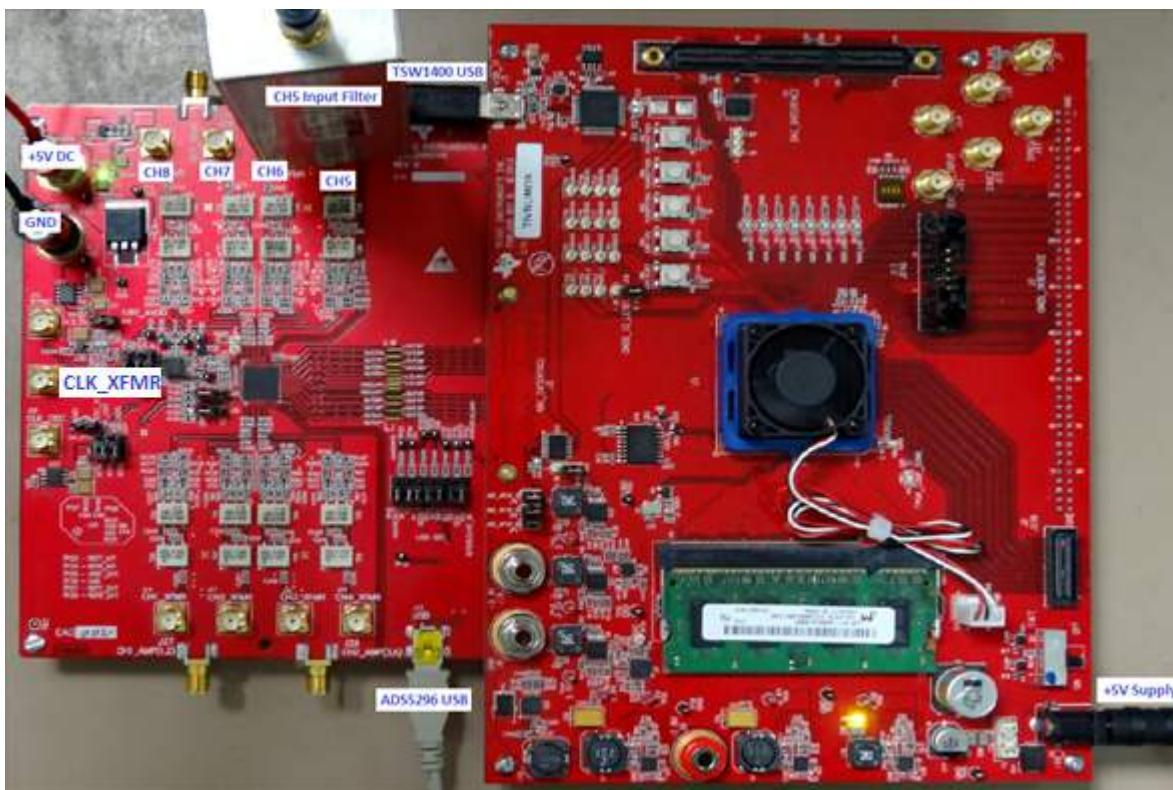

Figure 38. Octal Non-interleaving Mode Hardware Setup
2. With the setup established in Figure 38 and Figure 37, perform the following steps:
- (b) Enable the signal generator providing the input signal to SMA J15 labeled **CH5_XFMR** (+15 dbm, 10 MHz). For high-performance results the instrument should have low phase noise and low harmonic distortion. In addition, a filter is recommended on the input as shown in Figure 38.